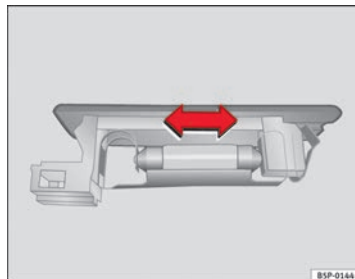

Fig. 168 Luggage compartment light
- Press the bulb sideways and remove it from its housing ⇒ fig. 168. ■